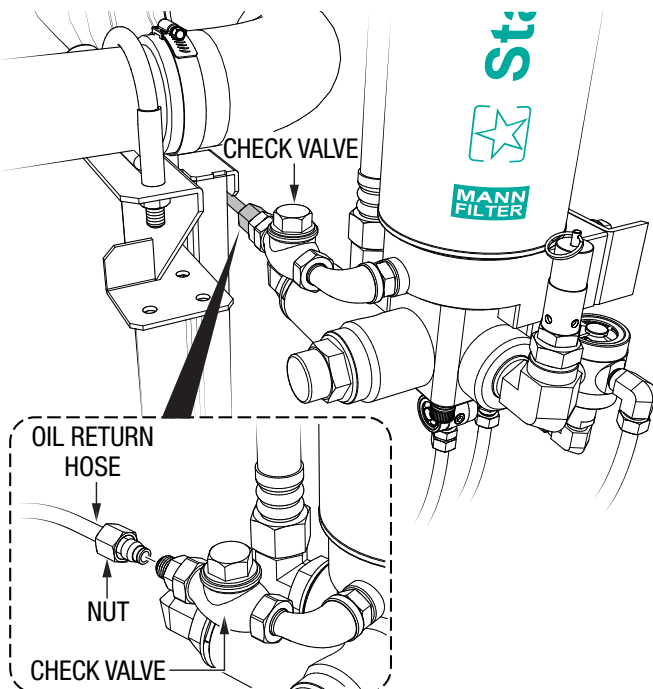

Figure 7. Oil Return Hose Disconnection
1. Loosen the nut securing the oil return hose to the check valve (Figure 7), and disconnect the hose.